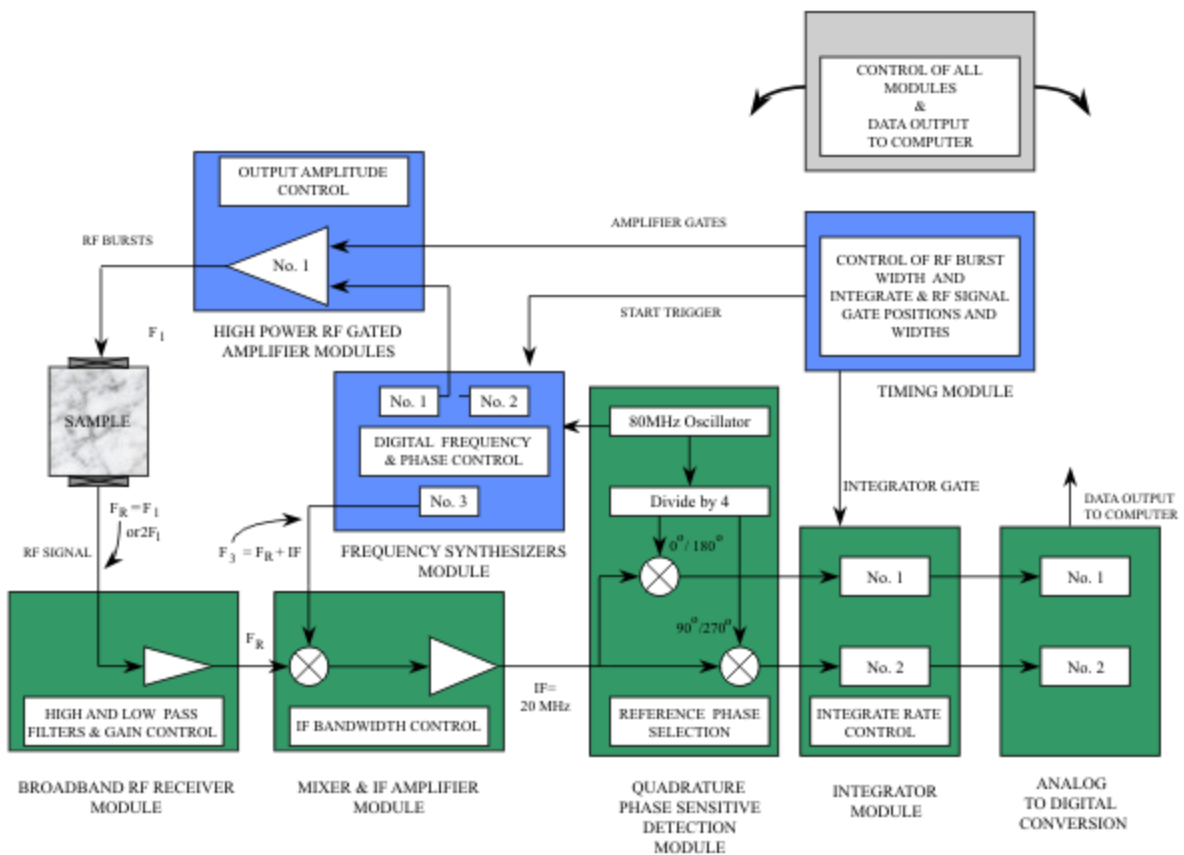

Figure 11-1. Block diagram of RAM system.
Figure 11-1 shows the block diagram of the instrumentation approach used in the RAM-5000-M6-Plus system.
Equations 11-5, 11-6, and 11-7 describe the "quadrature phase-sensitive detection" process. The high-frequency terms are effectively removed by the integrators and low-pass filters (not shown in Figure 11-1) that follow the analog Multipliers. Only the low-frequency (base band) terms, involving the phase of the received signal, survive. This analysis has assumed that the local oscillator synthesizer (synthesizer 3) has been set to receive the proper frequency. If this is not the case, the phase detector outputs will contain terms containing the difference frequency between the tuning (LO) frequency and the actual received frequency.